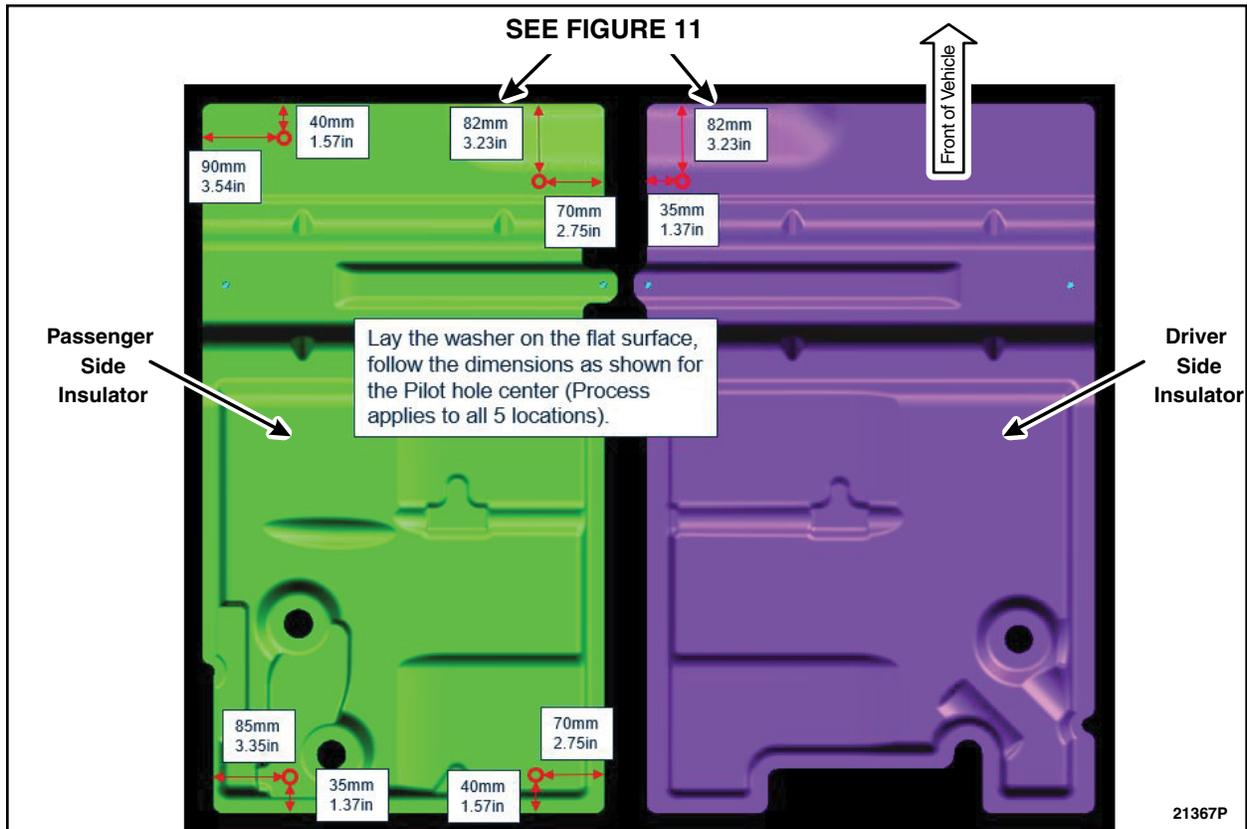

FIGURE 10
9. Measure and mark the four locations on the passenger side insulator and mark the one location on the driver side insulator. See Figures 10 and 11.